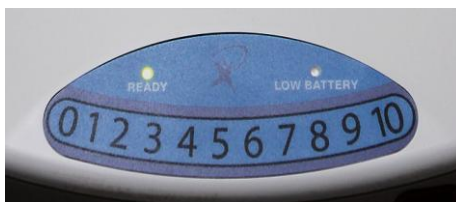

Figure 18: Pain Scale on the Face of the MOD®
2. Enter a pain value ranging from 0-10 (0 = least amount of pain; 10 = greatest amount of pain) by touching the Pain Scale touchpad number that best represents the level of pain experienced (Figure 18). NOTE: The MOD® RFID reader activates when the patient enters a Pain Scale value. Upon RFID reader activation, the green READY light begins to blink.